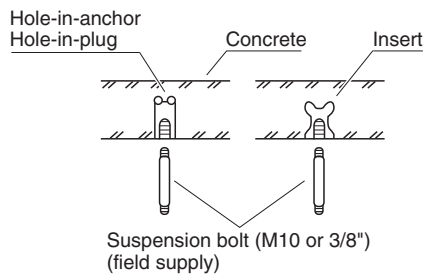

Fig. 3-59
- Insert suspension bolts as shown in the diagram. (Fig. 3-59) or
- (2) Screw in the suspension bolts allowing them to protrude from the ceiling as shown in Fig. 3-59. (Cut the ceiling material, if necessary.)